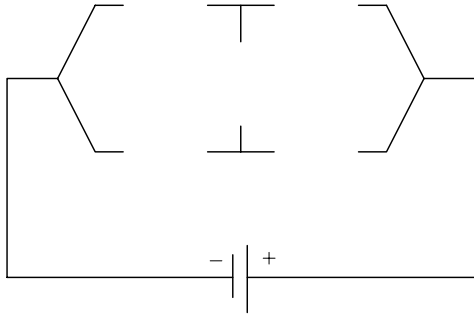

Figure 16-55 Electric circuit diagram without resistors for Exercise 2
1. Draw the electric circuit diagram, as shown in Figure 16-55 (assume the dimensions).